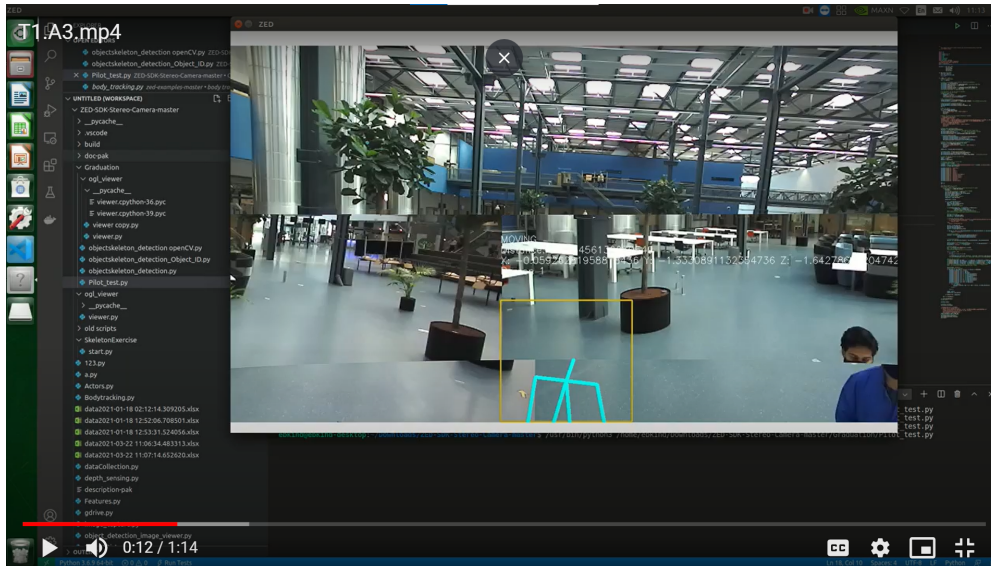

Figure 4: Flickering in the video
- Occasional flickering on video - no data issues found in the recorded data (See figure 4)